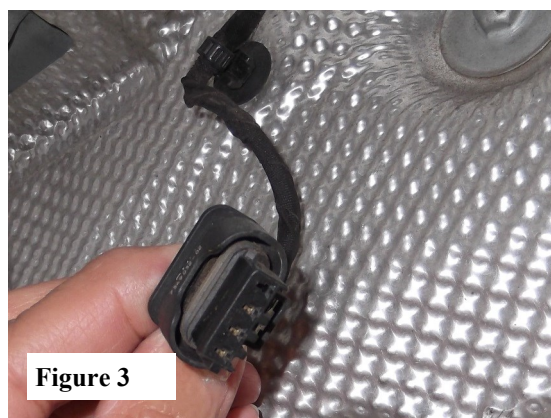

Figure 3
3. Disconnect left and right electrical harness from rear mufflers. (See Fig. 3)